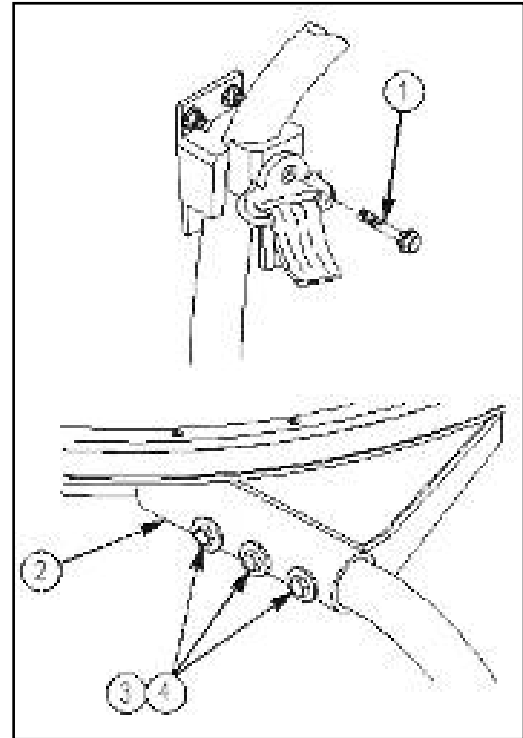

Figure 20a.
20. Remove seat belt shoulder bolt (1) and apply 8030-01-025-1692 sealing compound to threads. Reinstall and tighten seat belt shoulder bolt (1) to 40 lb-ft (54.2 N·m). Refer to figure 20a.
21. Remove three capscrews (3) and washers (4) from turret support assembly (2) and apply 8030-01-025-1692 sealing compound to threads of capscrews (3). Reinstall three capscrews (3) and washers (4) and tighten capscrews (3) to 37 lb-ft (50.2 N·m). Refer to figure 20a.